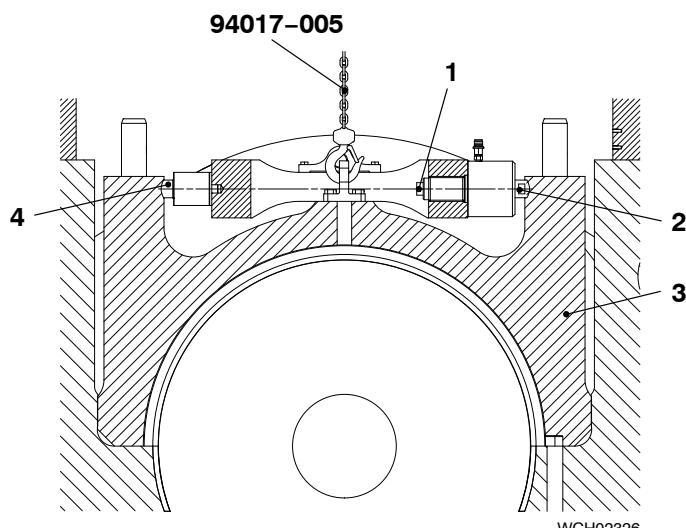
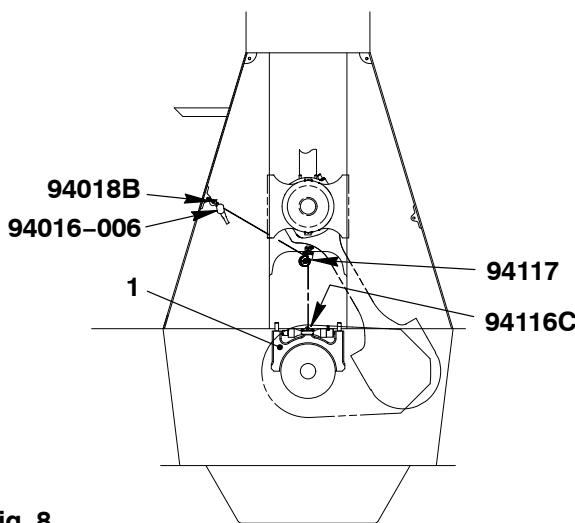

Fig. 7
Fig. 8
- 12) Apply cooper paste to the thread and the surface of the screw (1, Fig.7).
- 15) Make sure that the tappet (4, Fig.7) and the piston (2) are in the cutout of the main bearing cover (3).
- 19) Tighten the screw (1, Fig.7) manually.
- 1) Attach the chain of the manual ratchet (94016-006, Fig.8), through the roller support (94117) to the lifting lug (94116C) as shown in Fig.7.
- 2) Use the manual ratchet (94016-006, Fig.8) to lift the main bearing cover (1).